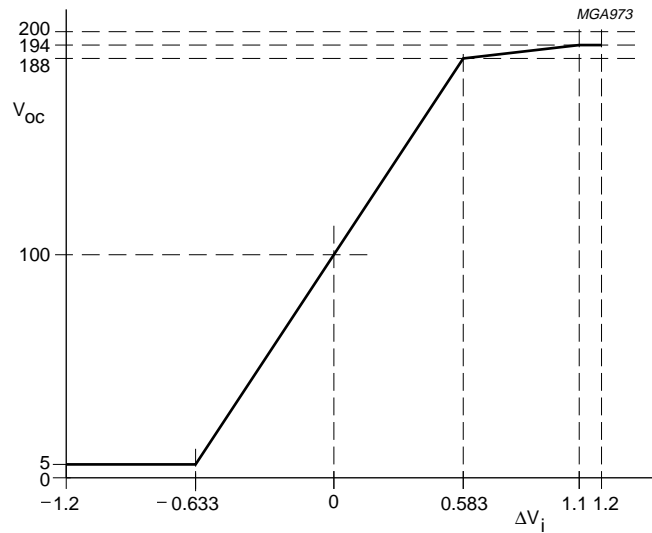

Fig.6 Typical low-frequency ($f < 1$ MHz) response of $\Delta V_{i1, 2,3}$ to $V_{oc1, 2,3}$.
1. See also Fig.6 for the typical low-frequency response of V_i to V_{oc} .